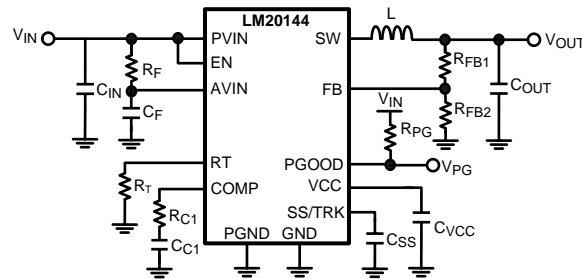

Figure 28. Typical Application Circuit
The LM20144 switching regulator features all of the functions necessary to implement an efficient low voltage buck regulator using a minimum number of external components. This easy to use regulator features two integrated switches and is capable of supplying up to 4A of continuous output current. The regulator utilizes peak current mode control with nonlinear slope compensation to optimize stability and transient response over the entire output voltage range. Peak current mode control also provides inherent line feed-forward, cycle-by-cycle current limiting and easy loop compensation. The switching frequency can be varied from 500 kHz to 1.5 MHz. The device can operate at high switching frequency allowing use of a small inductor while still achieving high efficiency. The precision internal voltage reference allows the output to be set as low as 0.8V. Fault protection features include: current limiting, thermal shutdown, over voltage protection, and shutdown capability. The device is available in the HTSSOP 16-pin package featuring an exposed pad to aid thermal dissipation. The LM20144 can be used in numerous applications to efficiently step-down from a 5V or 3.3V bus. The typical application circuit for the LM20144 is shown in Figure 28 in the design guide.
This section walks the designer through the steps necessary to select the external components to build a fully functional power supply. As with any DC-DC converter numerous trade-offs are possible to optimize the design for efficiency, size, or performance. These will be taken into account and highlighted throughout this discussion. To facilitate component selection discussions the circuit shown in Figure 28 below may be used as a reference. Unless otherwise indicated all formulas assume units of amps (A) for current, farads (F) for capacitance, henries (H) for inductance and volts (V) for voltages.
To prevent high frequency noise spikes from disturbing the sensitive analog circuitry connected to the AVIN and AGND pins, a high frequency RC filter is required between PVIN and AVIN. These components are shown in Figure 28. as C_F and R_F . The required value for R_F is 1 Ω . C_F must be used. Recommended value of C_F is 1.0 μ F. The filter capacitor, C_F should be placed as close to the IC as possible with a direct connection from AVIN to AGND. A good quality X5R or X7R ceramic capacitor should be used for C_F .